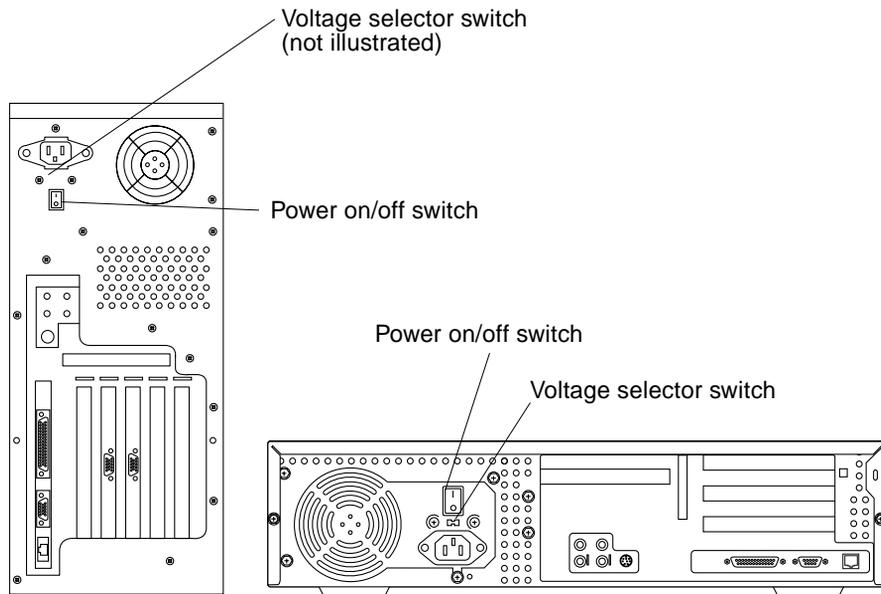

FIGURE 6-1 System Unit Power On/Off Switch
4. If necessary, set the power on/off switch to the on position (FIGURE 6-1).
3. Set the system unit power on/off switch to the off position (FIGURE 6-1).